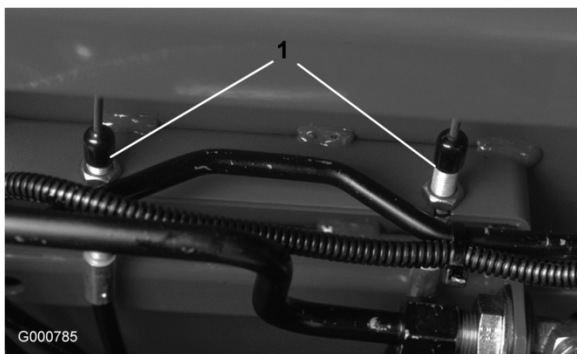

Figure 62
2. To reduce free travel of brake pedals, tighten the brakes by loosening the front nut on the threaded end of the brake cable (Figure 62). Then tighten rear nut to move cable backward until brake pedals have 1/2 to 1 inch of free travel. Tighten front nuts after brakes are adjusted correctly.